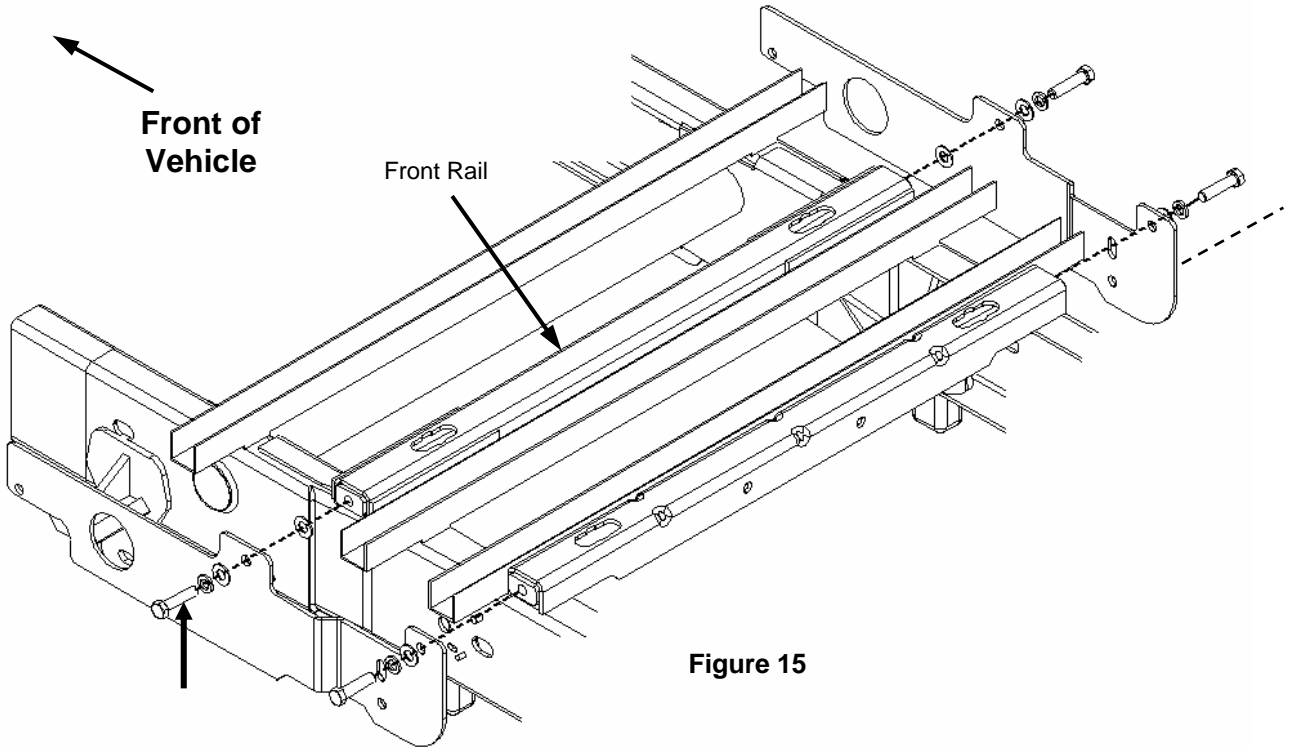

Figure 15
- Loosely attach frame brackets to rails using 5/8" X 1 1/2" long bolts, flat washers and lock washers. (Figure 15)